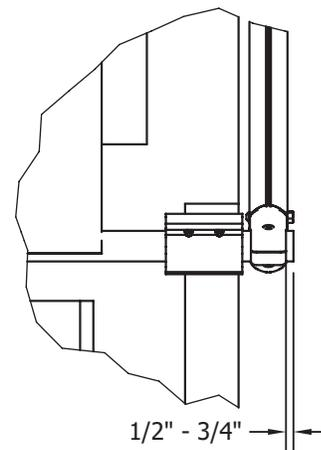

Figure 26-3
14) **Figure 26-3.** Adjust cross arm on one side to extend 1/2"-3/4" beyond upper arm casting.